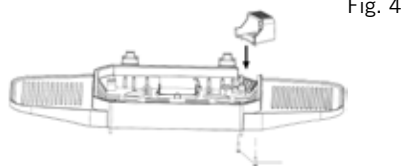

Fig. 4
7. Place the socket bracket [7]/(H), as shown in Fig. 4, into the designated opening on the grill housing and fasten the bracket with 2 screws ST 3x10 (D).